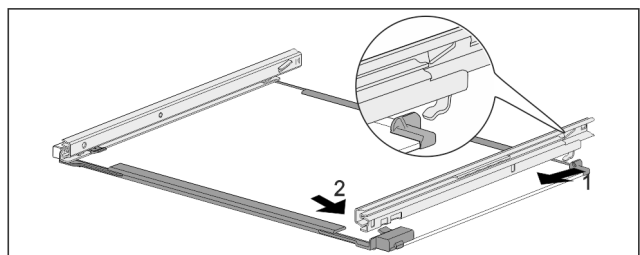

Fig. 143 Glass shelf with rails
- ▶ Hook in rail at the back. *Fig. 143 (1)*
- ▶ Hook in rail at the front. *Fig. 143 (2)*